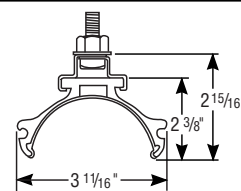
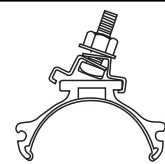

Figure 2
Figure 3
1. **Clamps** — Heaters are mounted by means of the mounting clamp and  $\frac{3}{8}$ " bolt assembly which is used as shown in Figure 2. Clamp assembly may be attached to heater by sliding over end or by snapping over top of extruded frame section at any point along its length (see Figure 3). For proper heater support, the maximum distance between clamps must not exceed 48". On extra-long heaters, more than two clamps are furnished.